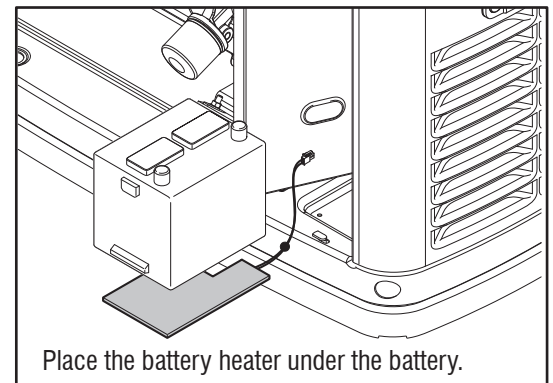

Figure 2
3. Place the battery heater under the battery (Figure 2).